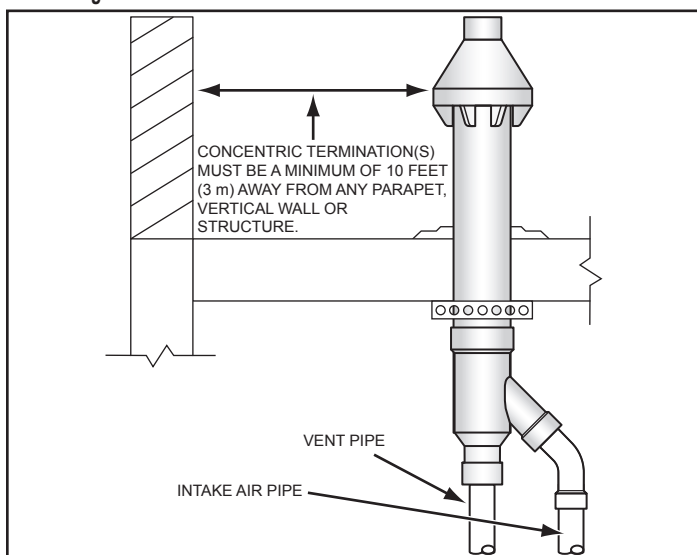

Figure 27. Concentric Termination - Flat Roof Clearance
4. When installing a concentric termination vertically through a flat roof, the termination's vent cap must be a minimum of 10 feet (3 m) away from any parapet, vertical wall or structure as shown in **Figure 27**.